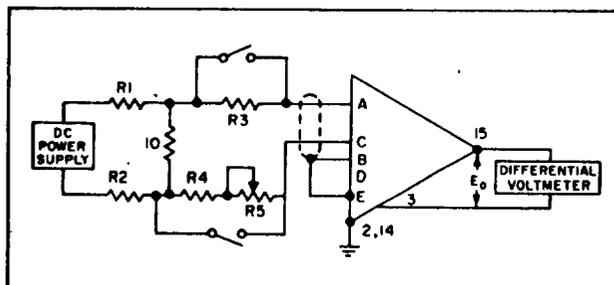

Figure 6-10. Input Resistance Test Circuit (With Gain Multipliers)
- 1) Connect the amplifier as shown in Figure 6-10. Select R1 and R2 to provide the necessary attenuation (R1 and R2 are the same value). If attenuation is not required, jumper R1 and R2 and remove the 10 ohms resistor. R3 and R4 are 10,000 ohm, $\pm 1\%$ resistors. R5 is a 1000 ohm wirewound trimpot. It may be necessary to place R4 in series with R3 instead of R4 (as shown), depending on the characteristics of the amplifier under test.
- 2) Repeat steps (2), (3), (4), (5), and (6) of the previous procedure.